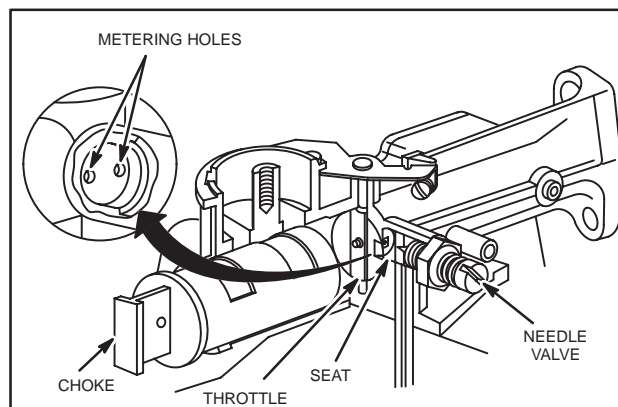

Fig. 180 – METERING HOLES
4. If carburetor is gummy or dirty, remove seat to allow better access to metering holes, Fig. 180.
**NOTE:** Do not change metering hole sizes, Fig. 180.